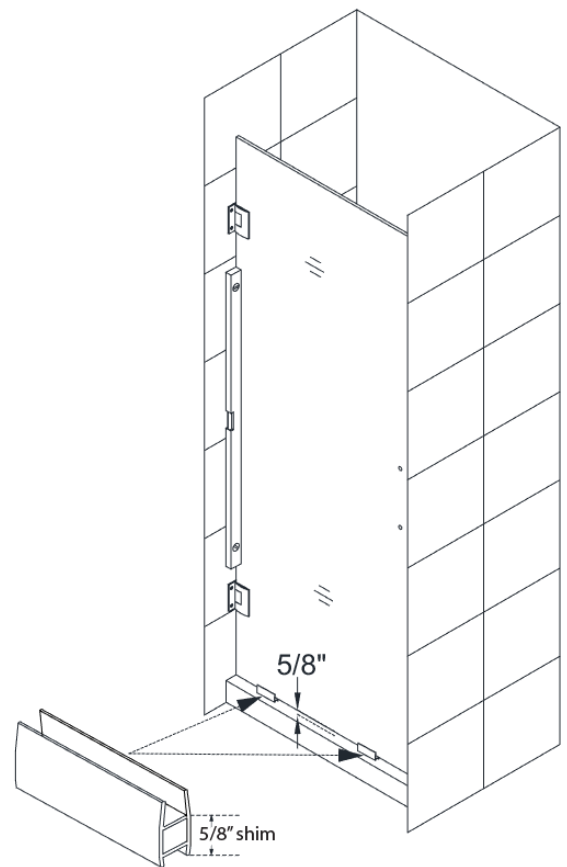

Fig. 2
**Please check the model dimensions for proper placement of the Door Glass (01) so that the door glass will align correctly with the return panel glass.**
2. The **Door Glass (01)** ships with four 5/8" shims attached to the top (2pcs) and bottom (2pcs). Determine the swing of your door and only remove the shims from the top of the door glass, leaving the bottom shims in place. Set the **Door Glass (01)** onto the threshold at the desired location and check for level. These 5/8" shims will leave the proper spacing at the bottom of the door glass and will ensure that the door height finishes at 72", but always confirm with a measurement. Carefully butt the door with the hinged side against the wall, adjust its position and check for plumb with a level. **(Fig 2)**
**When installing the door along with panel glass, use the 72" Anti-Water strip (Inline) (19) that is packed with the panel glass as a height reference to be sure that the door height will match the panel glass at 72".**